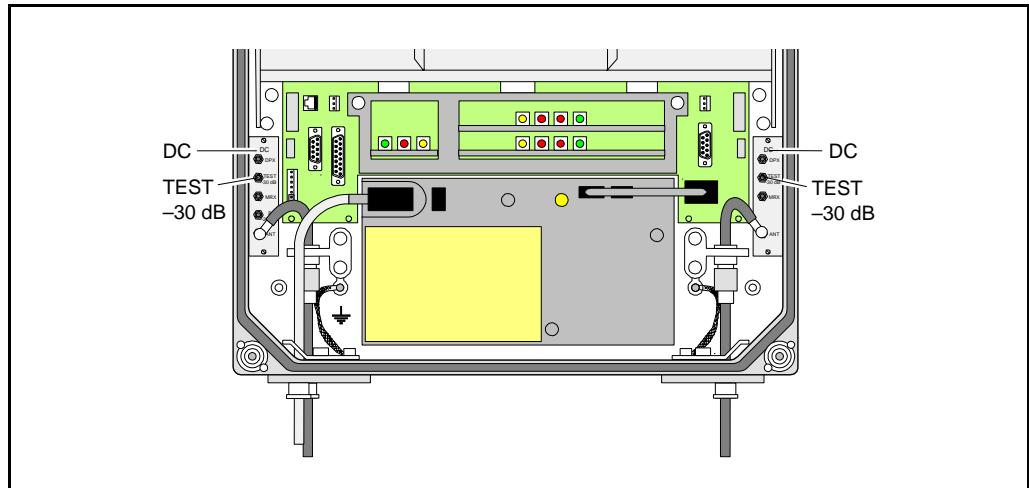

Figure 4-4. Measuring ports for output signal level
Uplink and downlink output signal test ports are found on the directional couplers (DC) at the MS and BS antenna connectors. These test ports are marked TEST -30dB (see Figure 4-4) and are intended for signal measuring using e.g. a spectrum analyzer.